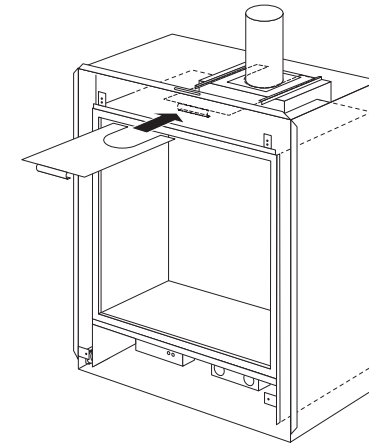

fig. 10
10. Turn the clamping plate up-side down and slide the plate between the guides so that its ends grip around the pipe opening (see fig. 10). Make sure that the flue collar plate is pressed onto the burner chamber.